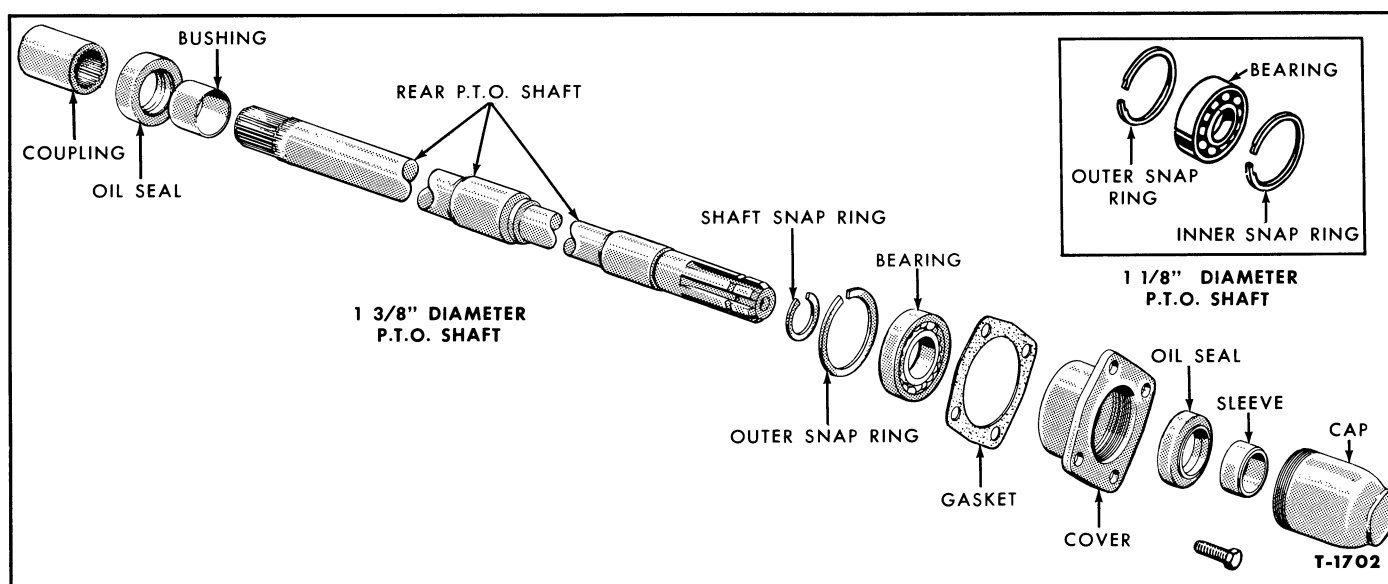

Figure 3—Single Speed P.T.O. Shaft
3. Remove the outer snap ring, Figure 3, from the P.T.O. cover. Use Puller 1003 and pull the cover off the shaft.
5. Use Bearing Puller Attachment 951 and press the sleeve and bearing, Figure 3, off the shaft.
6. Press a new bearing on the shaft with a $1\frac{1}{2}$ " I.D. sleeve. Make sure the shaft snap ring, Figure 3, is installed on the $1\frac{3}{8}$ " P.T.O. shaft.
8. Press a new oil seal in the cover (lip inward) using Step Plate 630-9. Position the seal 0.020" to 0.060" behind the bearing seat. On the $1\frac{1}{8}$ " diameter shaft, seat the seal against the inner snap ring shown in the insert, Figure 3.
9. Coat the bearing and oil seal with a film of grease. Press the cover on the P.T.O. shaft and install the outer snap ring, Figure 3.